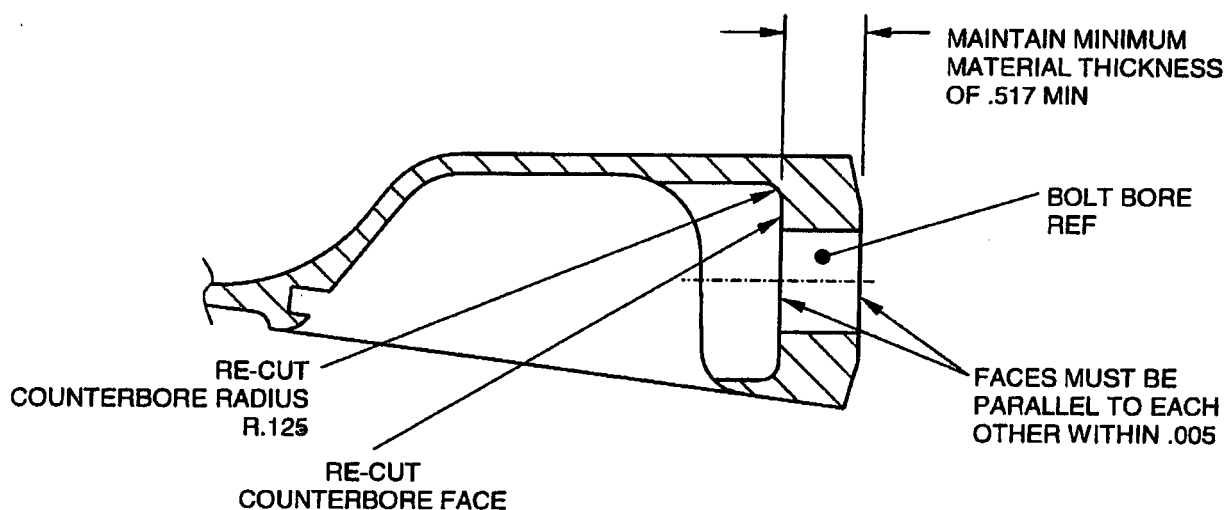

Fig 1
1. CAREFULLY RE-CUT FACE OF COUNTERBORE ON THE WING FITTING (35-115058-1 OR -3 (WHICHEVER IS FITTED)), REMOVING MINIMUM AMOUNT OF MATERIAL NECESSARY TO CLEAR ALL WASHER IMPRINT DAMAGE AS SHOWN IN Fig 1. MAX MATERIAL REMOVAL NOT TO EXCEED DEPTHS OF DAMAGE DETAILED IN CUSTOMER'S DAMAGE REPORT (REF .517 REMAINING THICKNESS).
2. RE-CUT RADIUS FOR NEW COUNTERBORE FACE FOR THE FITTING AS SHOWN IN Fig 1.